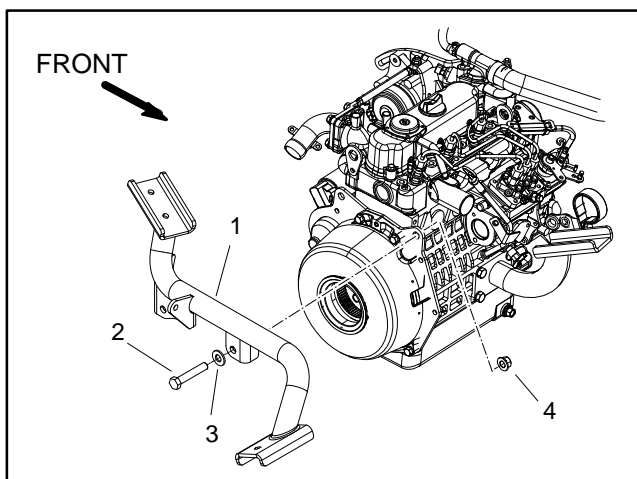

Figure 15
B. Remove two (2) cap screws, washers and lock nuts that secure rear engine plate to rear engine mount (Fig. 15).
B. Secure engine rear plate to rear engine mount with two (2) cap screws, washers and lock nuts (Fig. 15).